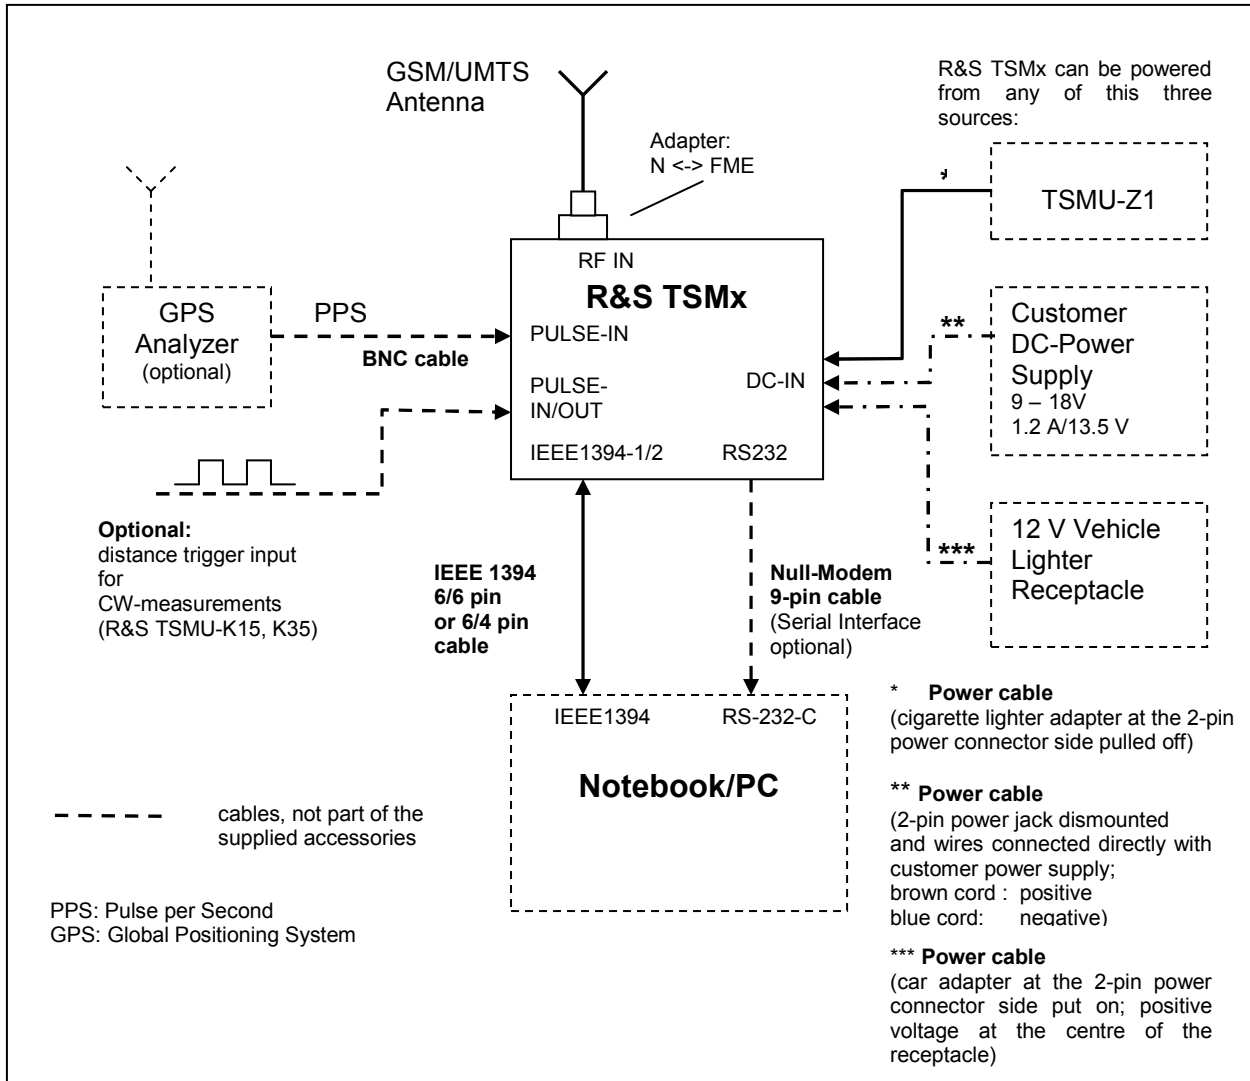

Fig. 2 Wiring Diagram
- See Fig. 2 for the complete wiring diagram